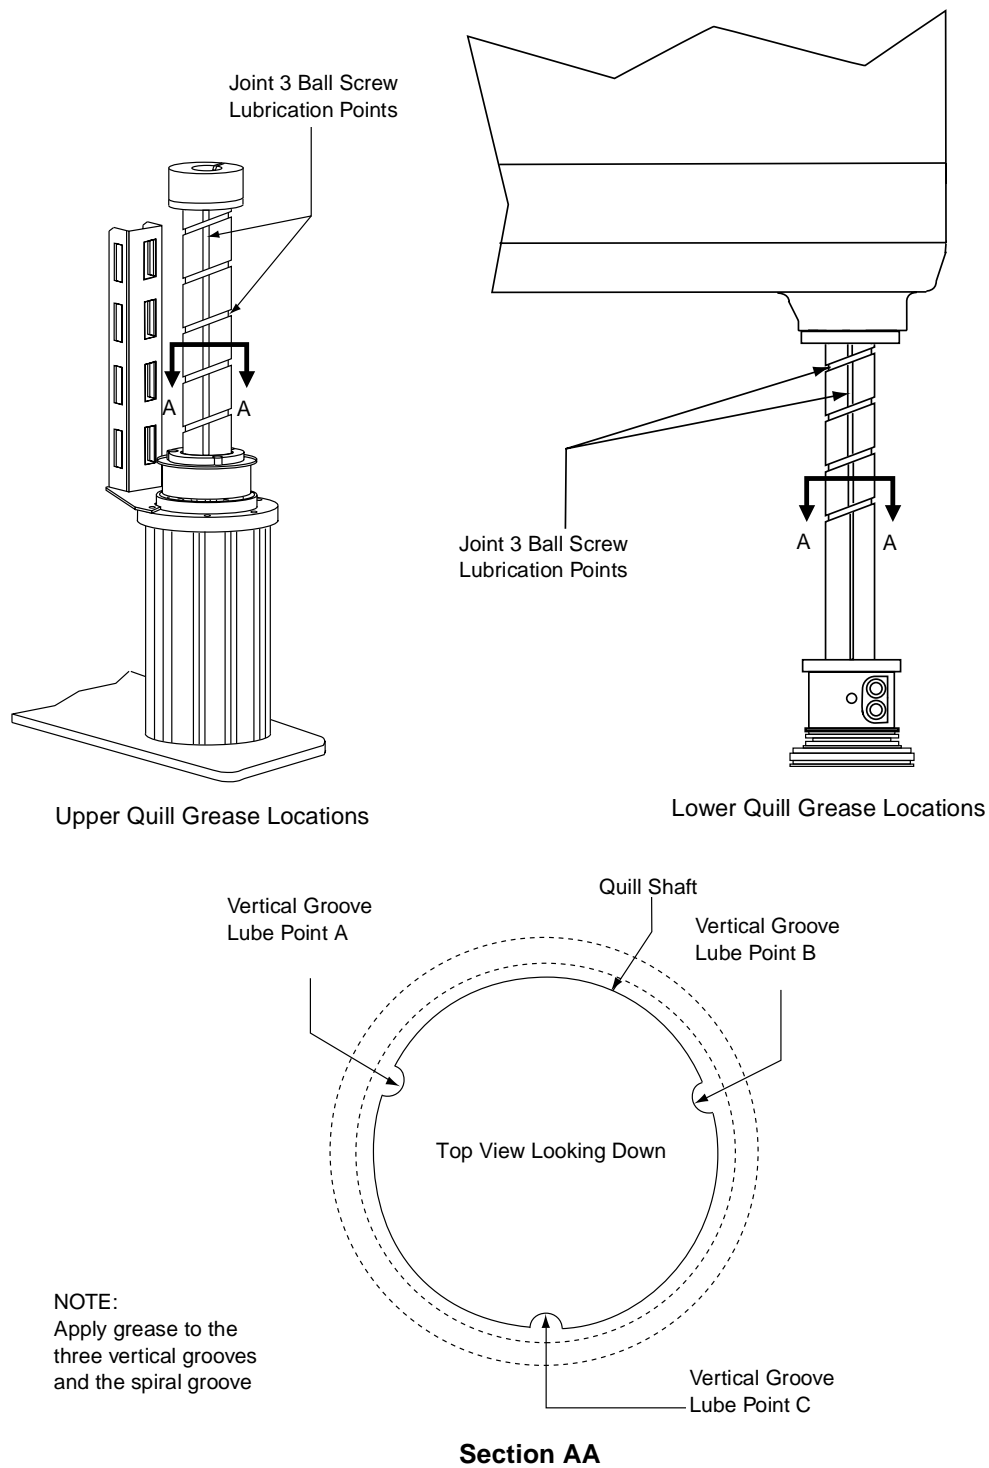

Figure 9-2. Lubrication of Joint 3 Ball Screw
4. Using a syringe, apply a small bead of grease to the joint 3 ball screw grooves (see Figure 9-2).